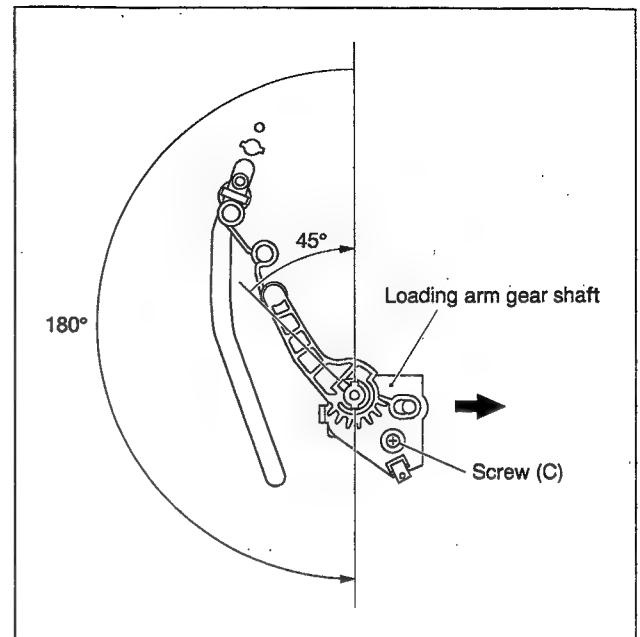

Fig. 2-2-27
- (3) Pull the spring out of the pole base. Turn the loading arm clockwise through about 45 degrees so that the notch of the loading arm is in alignment with the projection of the loading arm gear shaft and lift it. Likewise, turn the loading arm counterclockwise through 180 degrees so that the notch is in alignment with the projection and remove the loading arm (on the take-up side). (See Fig.2-2-27)
- (4) When removing the loading arm gear shaft, be sure of first removing the screw retaining the drum assembly (on the back side of the loading arm gear shaft). Then remove one screw (C) and remove the loading arm gear shaft by sliding it in the arrow-indicated direction.